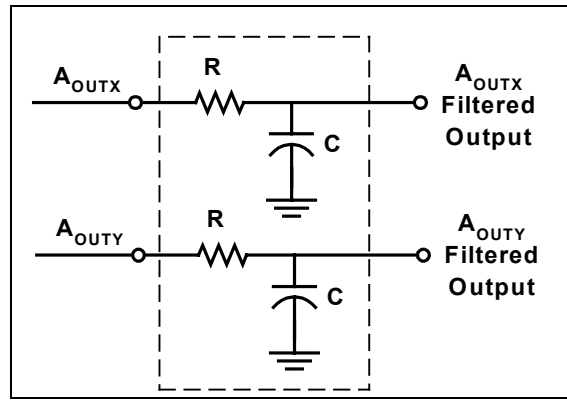

Figure 4: Low Pass Filter
**Low Pass Filter:** An external low pass filter would be useful in low frequency applications such as tilt or inclination. The low pass filter limits the noise floor and improves the resolution of the accelerometer. The low pass filter shown in Figure 4 has a  $-3\text{dB}$  breakpoint given by the equation:  $f = \frac{1}{2\pi RC}$ . For the 200 Hz ratiometric output device filter,  $C=0.1\mu\text{F}$  and  $R=8\text{k}\Omega, \pm 5\%$ ,  $1/8W$ .